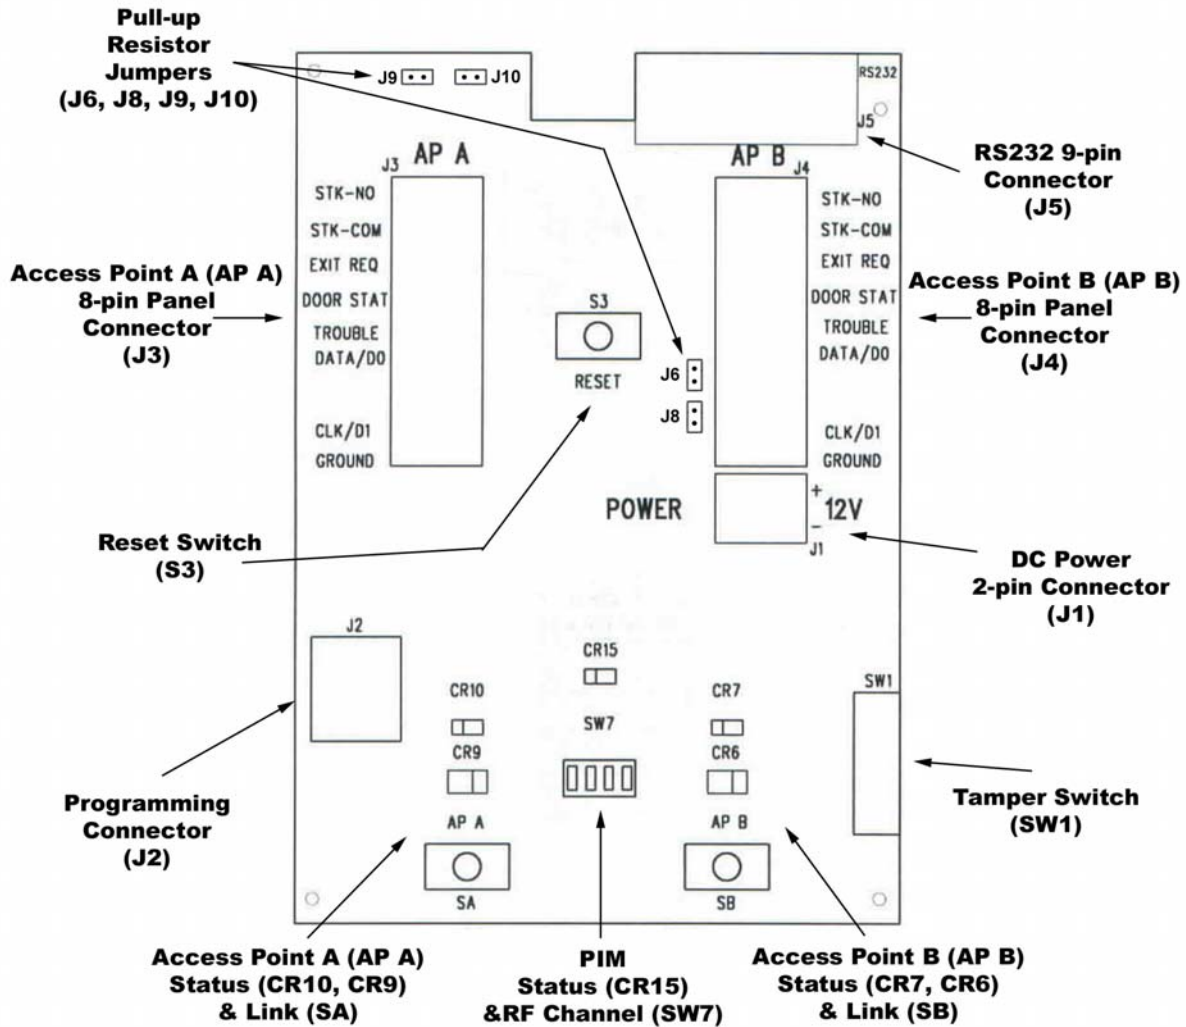
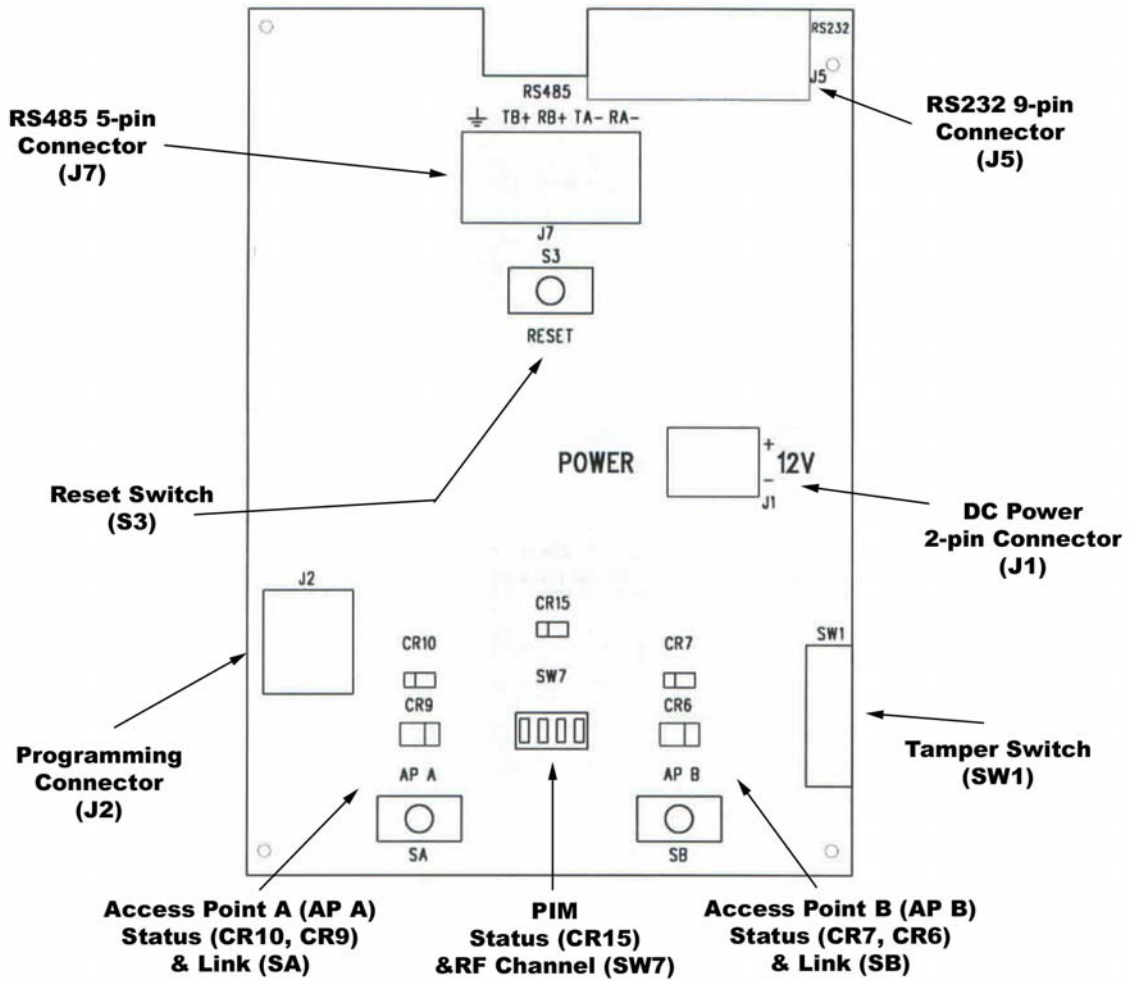

Figure 2-1 – RS232 PIM & PIME Printed Circuit Board (PCB)
Figure 2-2 – RS485 PIM & PIME Printed Circuit Board (PCB)
There are two versions of the PIM printed circuit board (PCB): RS232 (Figure 2-1) and RS485 (Figure 2-2).
The version of PIM PCB being installed can be identified by observing which connectors are installed on the PCB. Compare the board being installed to Figure 2-1 and Figure 2-2.
2.1.1 RS232 PIM PCB (Figure 2-1)
2.1.2 RS485 PIM PCB (Figure 2-2)
One of fifteen RF channels can be set using DIP switch SW7 on the PIM (Figure 2-1 or Figure 2-2). Table 2-4 shows how to set SW7 to select the desired RF channel:
The Reset Switch, S3 (Figure 2-1 or Figure 2-2), is used if the PIM does not seem to be working properly. Pressing the Reset Switch has the same effect as cycling DC power to the PIM.
The PIM Tamper Switch, SW1 (Figure 2-1 or Figure 2-2), senses if the PIM enclosure door is open or closed.
The PIM Programming Connector, J2 (Figure 2-1 or Figure 2-2) is used to install a new version of the PIM firmware into the PIM. If a new firmware version is required, please refer to the “Wyreless Access™ System Firmware Programming” manual for further details.